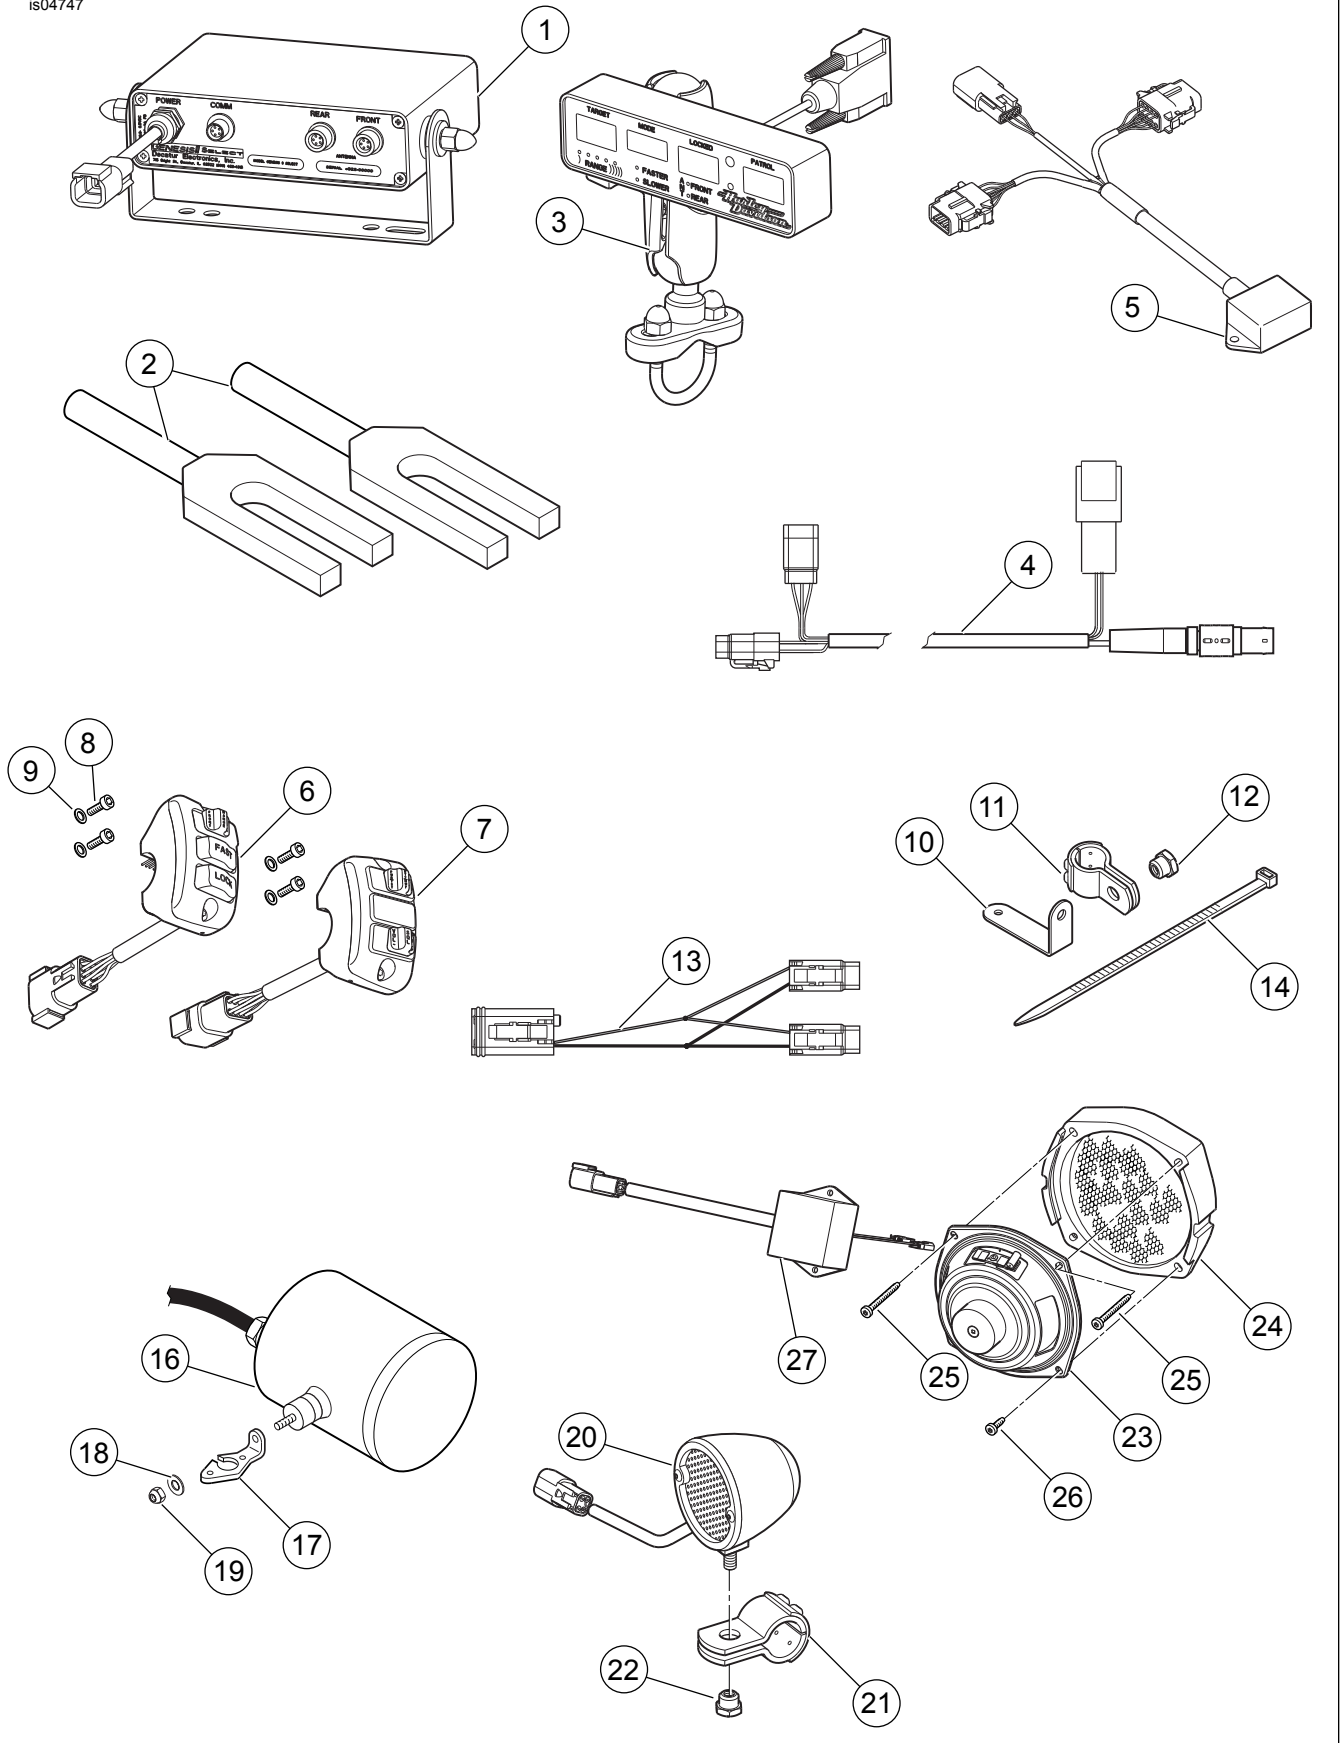

Figure 13. Service Parts: Vehicle Integrated Radar System, Radar Antenna and Speaker Kits
3. See Figure 13. Obtain the speaker (23), adapter (24), screws (25 and 26) and modular amplifier (27) from the speaker kit (purchased separately).
6. See Figure 13. Install the two long screws (25) to secure the top of the speaker and adapter assembly to the right side inner fairing. Capturing the fairing support brace, install the short screw (26) in the lower outboard hole. The lower inboard screw hole is not used.
8. Secure the amplifier module (27) within the inner fairing with cable ties (14) from the kit. Connect the amplifier socket terminals to the speaker spade terminals. Different sized contacts will prevent proper assembly.
1. See Figure 13. Obtain the front antenna (16), antenna bracket (17), chrome locknut (19) and chrome washer (18) from the antenna kit.
1. See Figure 13. Obtain the rear antenna unit (16), antenna bracket (17), chrome locknut (19) and chrome washer (18) from the antenna kit.
1. See Figure 13. Obtain the rear antenna unit (16), chrome locknut (19) and washer (18) from the antenna kit, and the L-bracket (10) from the radar system kit.
1. See Figure 13. Obtain the logic module (5) from the radar system kit.
2. See Figure 13. Obtain the radar control unit (1) from the kit. The control unit will mount to the underside of the radio or Tour-Pak mounting bracket on the rear fender.